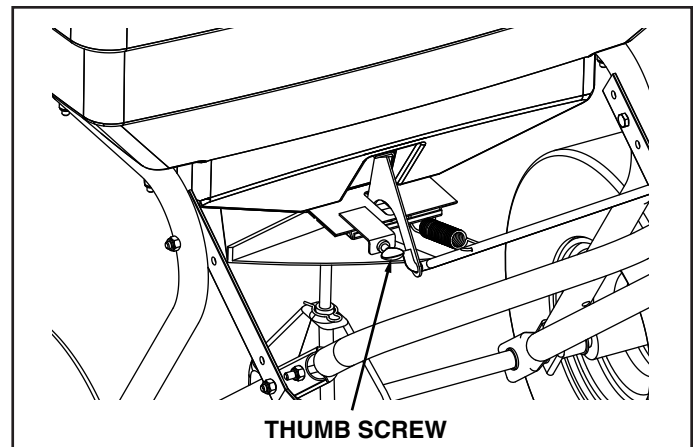

FIGURE 13
- To adjust the flow to be heavier to the left side, tighten the thumbscrew so the plate is pushed inward. See figure 13
- To adjust the flow to be heavier to the right side, loosen the thumbscrew so the plate is pulled outwards. See figure 13